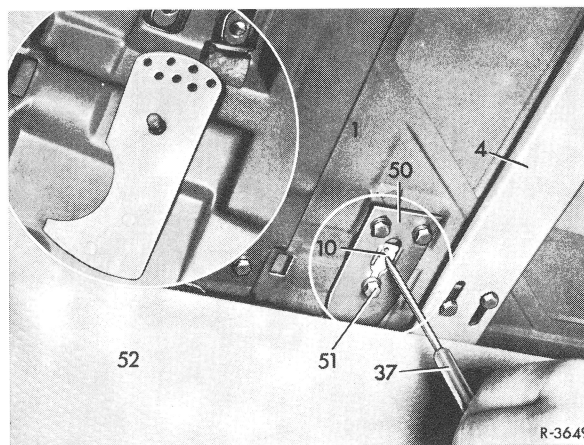

Fig. 2
- 3 Remove sliding roof headlining (refer to 77.0—100, item 1).
- 5 Loosen fastening nut (51) on angle bracket (50) (Fig. 2).